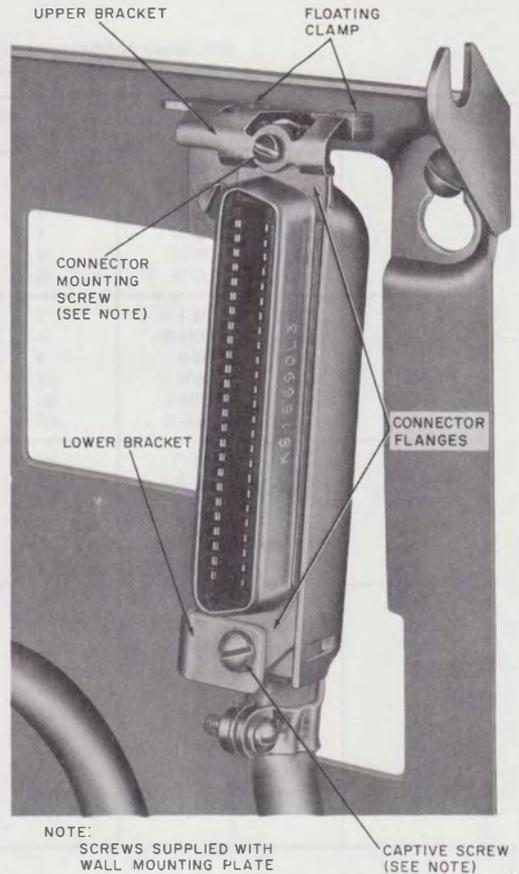

Fig. 13—Detail of Connector Mounting on Wall Plate
(1) Attach the wall mounting plate to the wall using four #8 screws. Place a spacer, supplied with the set, on each screw so that the plate stands off from the wall.
(2) If the cable connector has a screw at the end, remove and discard the screw.
(3) Remove the connector mounting screw (Fig. 13) from the top of the connector bracket on the wall plate and save for step (6). (The lower bracket screw is captive to the bracket and should be left in place.)
(4) Position the cable connector on the mounting brackets with the flange on its outer end between the stationary upper bracket and
the floating clamp, and the flange on its lower end under the lower bracket (Fig. 13).